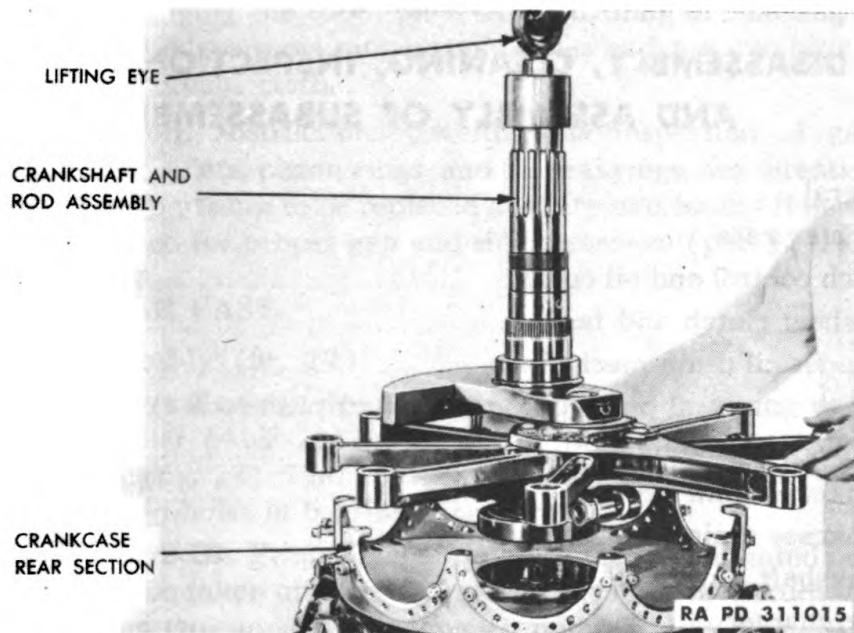

Figure 20 — Removing Crankshaft, Using Lifting Eye 5A2265
o. **Remove Crankshaft** (fig. 20). Install lifting eye (5A2265) over threads at end of crankshaft, and lift crankshaft and connecting rod assembly out of crankcase main rear section.